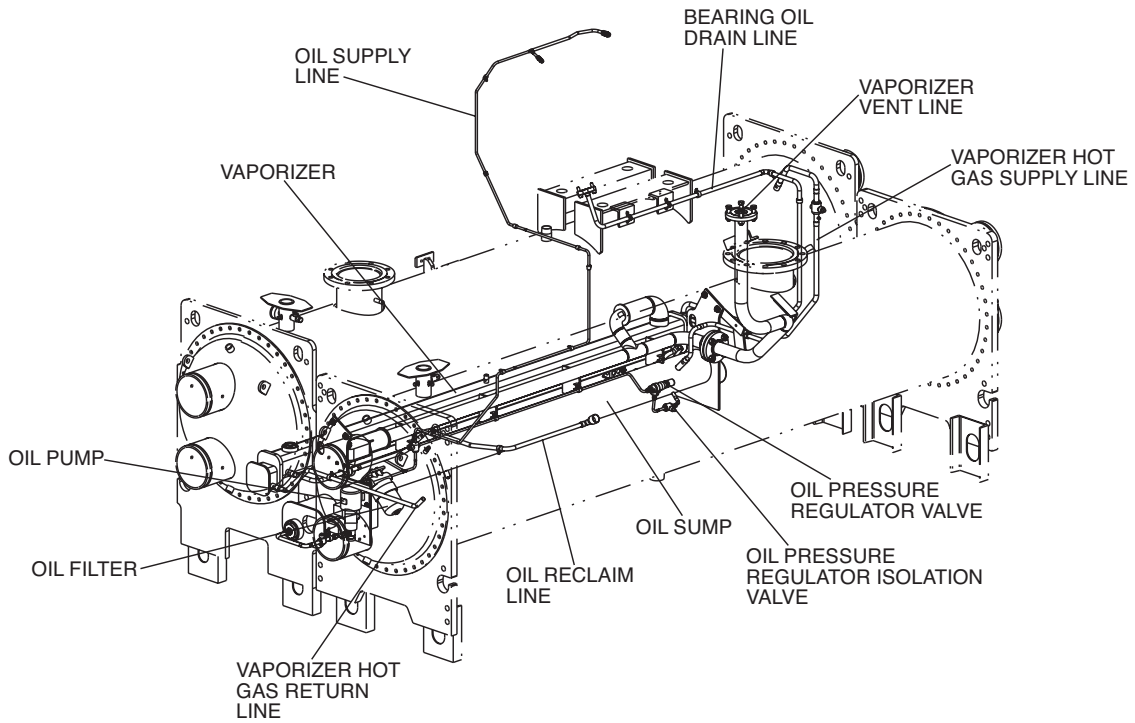

Fig. 36 — Oil Reclaim Piping (Unit with R Compressor Shown)
2. Cut the vaporizer hot gas return line (Fig. 36).
3. Cut the bearing oil drain line near the oil sump (Fig. 36).
4. Unbolt the vaporizer vent line flange shown in Fig. 36. (Cut for P compressor.)
5. Cut the oil supply line as shown in Fig. 36.
6. Cut the oil reclaim line as shown in Fig. 36.